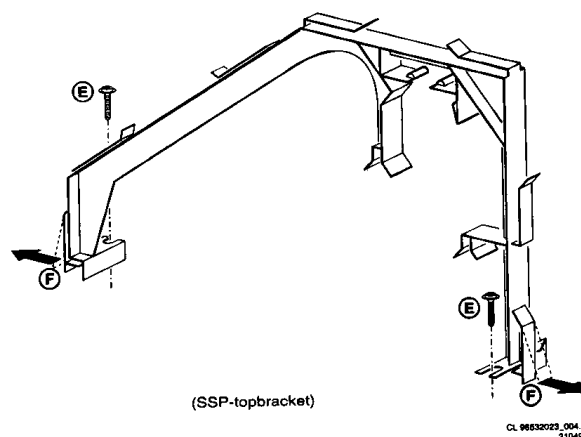

Figure 4-8
1. Remove the 2 fixation screws (E) (see figure 4-8).
2. Pull snap-hooks (F) to the outside direction and remove the bracket. The left snap-hook is somewhat difficult to release, but with some effort it is possible to release it by manipulating the hook with a finger underneath the MCS module at the left hand side.